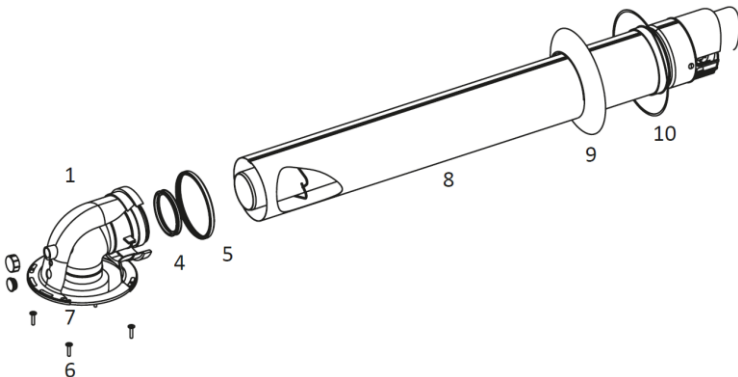

Figure 7
- The hermetic flue set is delivered in a carton box separate from the unit. The standard hermetic flue set ( $\varnothing$  60/100 or  $\varnothing$  80/125) consists of the following components (Figure 7).